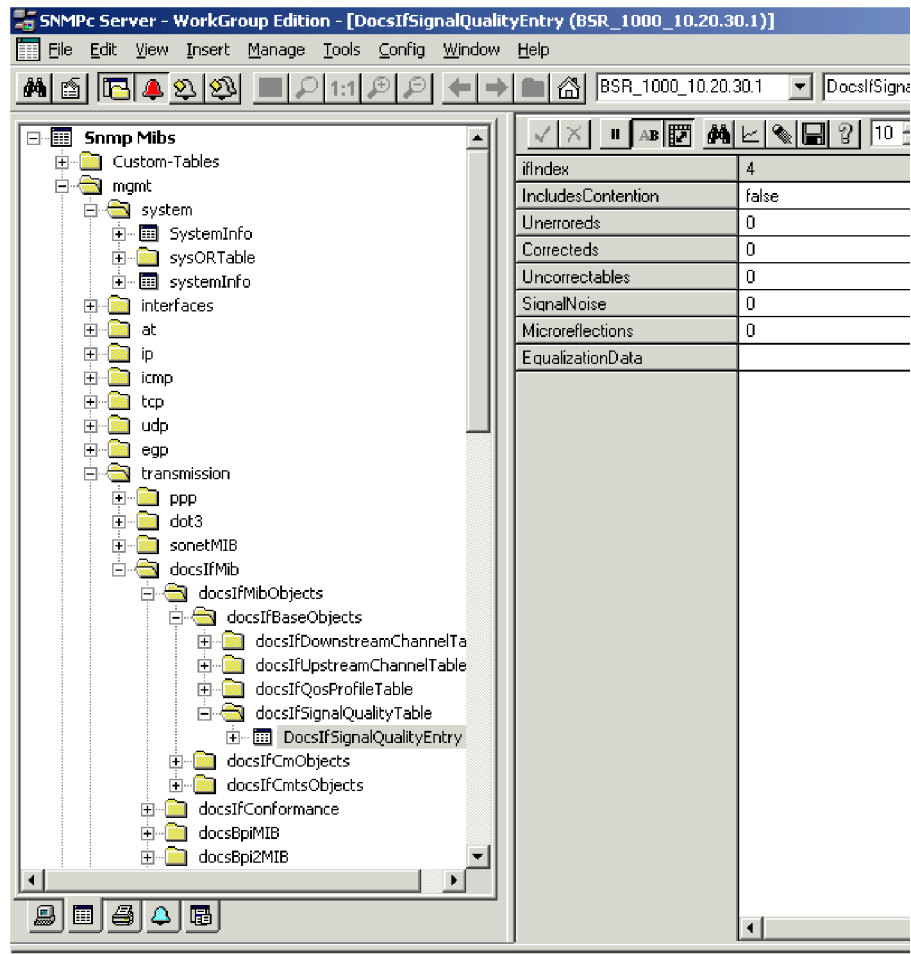

Figure 4-6 DocsIfSignalQualityEntry Table
- To find the signal quality information for an upstream port on the BSR 1000, use a MIB browser to access the **DocsIfSignalQualityEntry** table by following the MIB tree path identified below and in Figure 4-6: